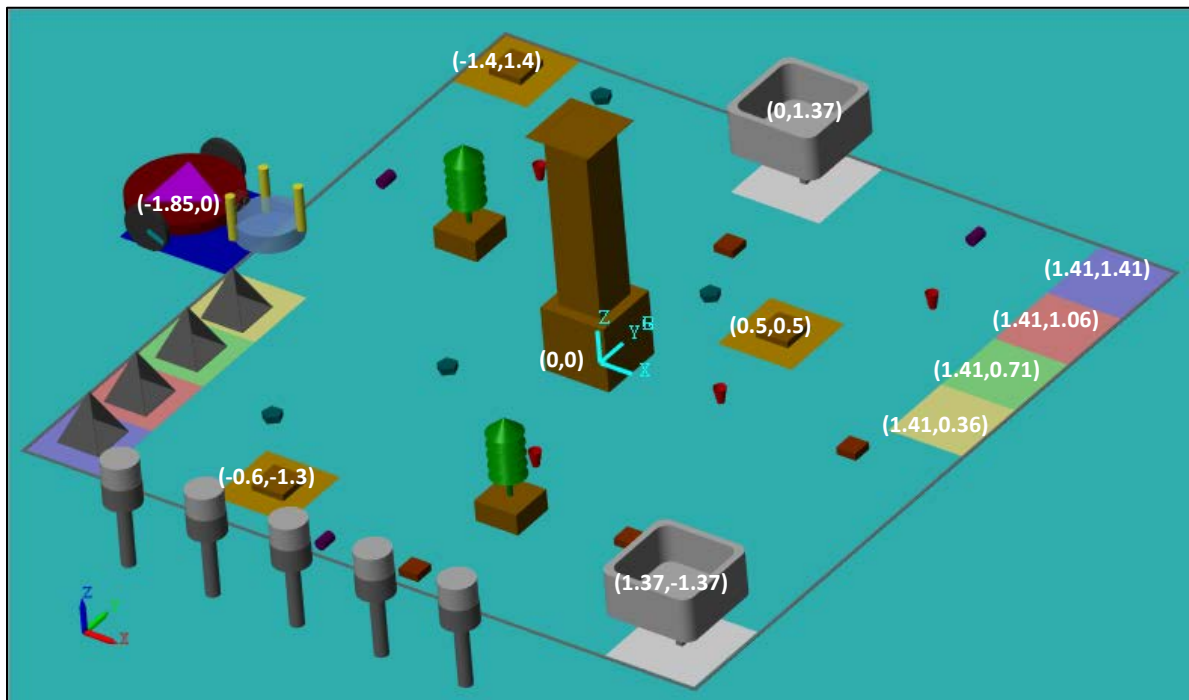

Figure 2.3. Center Coordinates of each Scoring Area on the Field
2. The Center position of each scoring area with respect to the world frame coordinates is shown in Figure 2.3. The dimensions of each scoring area are shown in Table 2.3.
4. Security light poles – will score only if in the light installation platforms (inside the smaller square) – see Figure 2.3; no more than one light pole will score per installation platform.